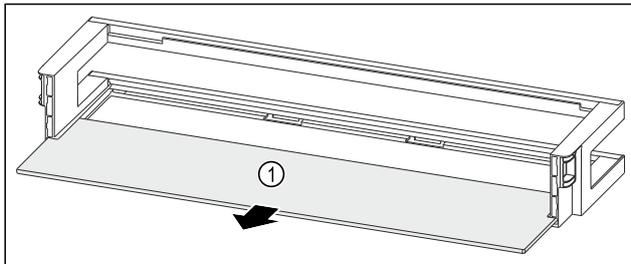

Fig. 93 Door rack with shelf
- ▶ Remove the shelf Fig. 93 (1).